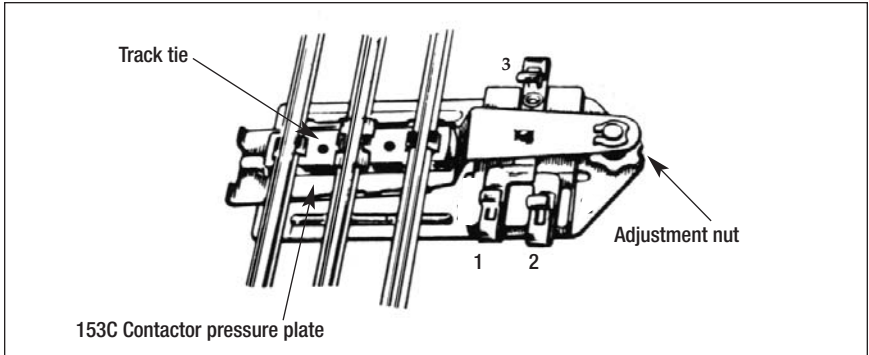

Figure 1. 153C Contactor
The 153C Contactor is activated by the weight of a passing train. Place the Contactor under the track, as shown in Figure 1.
2. Turn the adjustment nut either up or down until the accessory's lights begin to flash. Refer to Figure 1 on page 3 for the location of the adjustment nut.